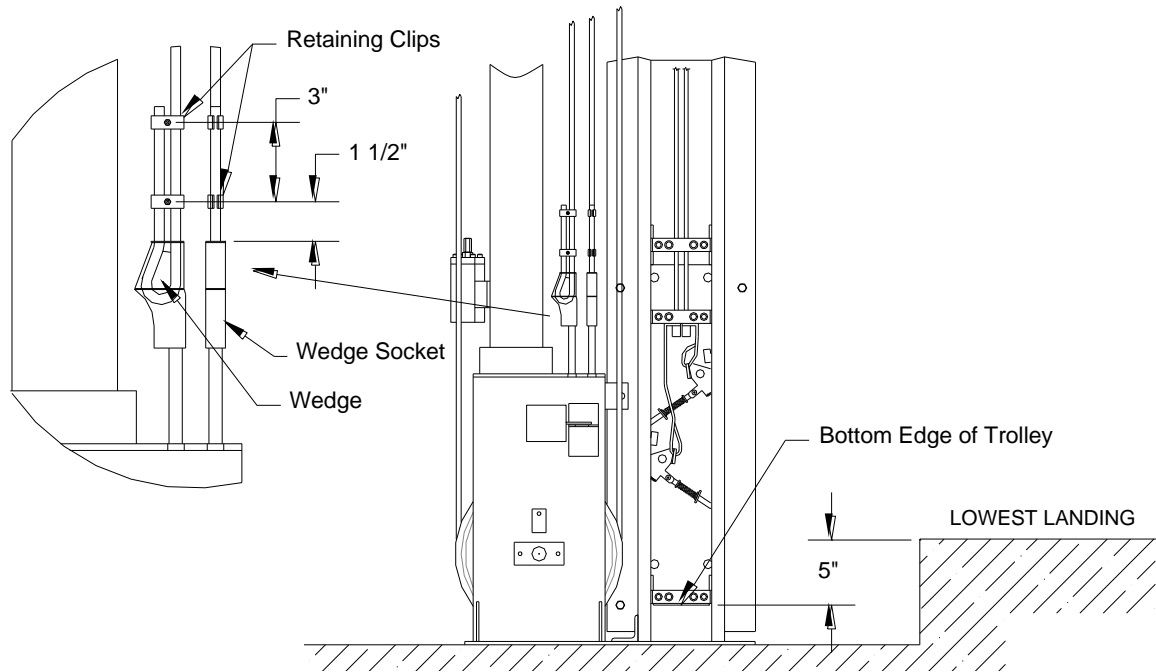

Figure 11
1. Position the bottom of the trolley 5" below the lowest landing (see Figure 11). Place a 'C' clamp or vice grip on the rail to hold the trolley in place.
4. Tighten ropes evenly using Wedge Socket adjusting nuts. When completed check to make certain all cotter pins are in place and nuts are tight. Install Retaining Clips on ropes as shown in Figure 11. Install two Anti-Rotation clips to wedge sockets.